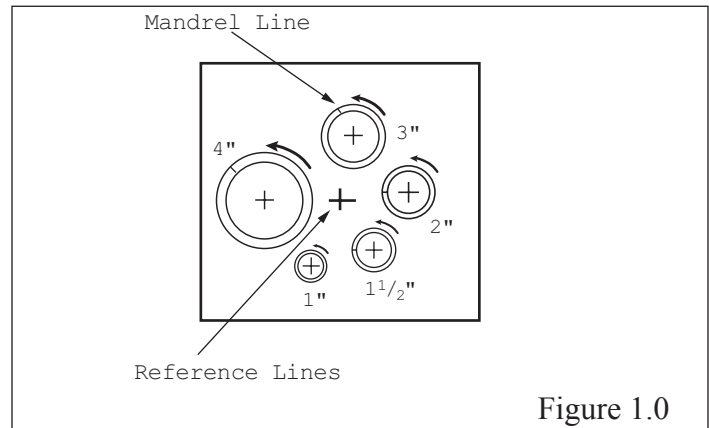

Figure 1.0
- Rotate mandrel line away from reference line to increase thickness, i.e. to make thicker (see Fig. 1.0)